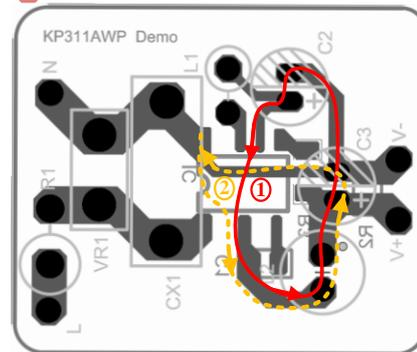

Fig.1
(1) Power Loop Routing:
As shown in fig.1, minimize the power loop area of ① and ② as small as possible. Power loop ① is formed by input capacitor – IC – inductor – output capacitor. Power loop ② is formed by inductor – output capacitor – freewheeling diode (Integrated in IC). Make sure these two loop area reduce to its minimum.